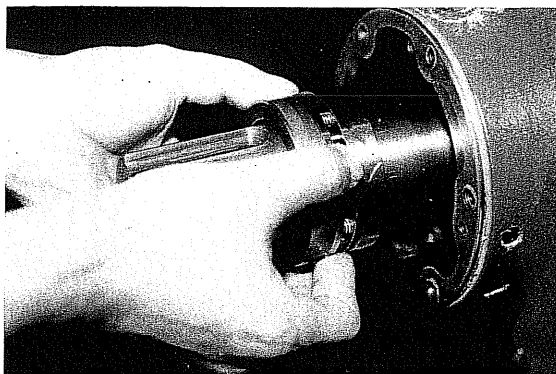

Fig. 54 Removing Shaft Seal
- e) The seal carbon is secured in the seal cover by an O-ring. Remove the seal carbon by pushing from the outside of the cover (Fig. 54).